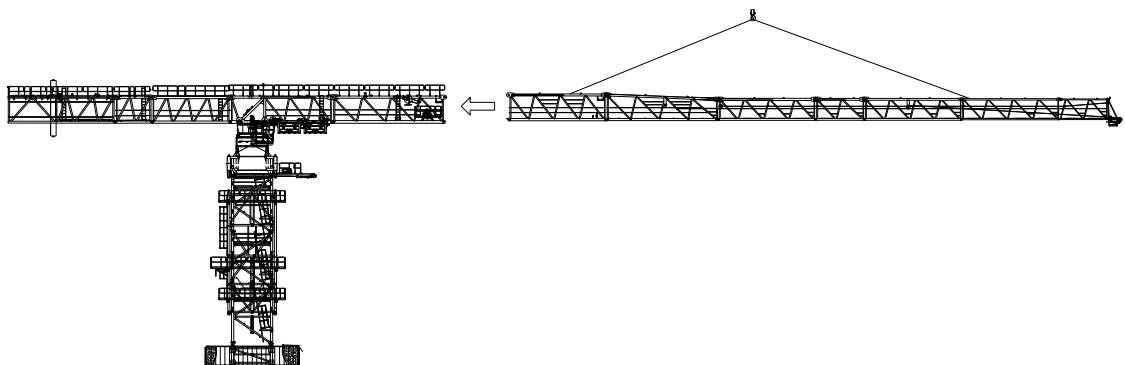

Fig. 4-43 Installing the rest jib assembly
4) Hoist the rest jib assembly to mounting height, as shown in Fig. 4-43. Connect it to jib II by pins.